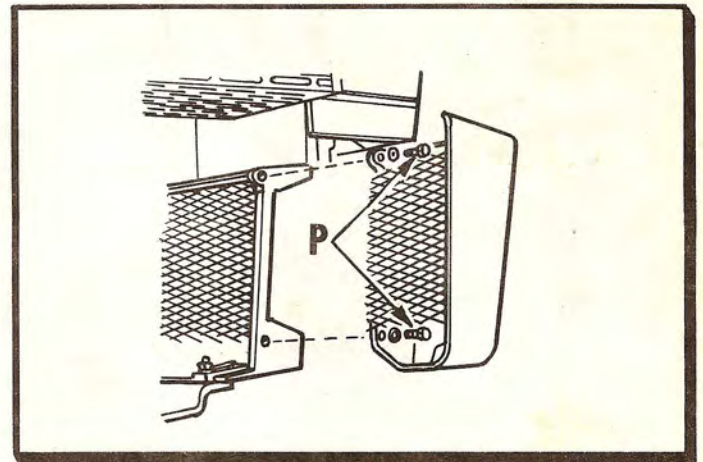

Fig. 2
2. Remove right-hand grill side by removing bolts (P) shown in Fig. 2. Keep grill side and bolts so they may be replaced when sickle bar mower is removed.